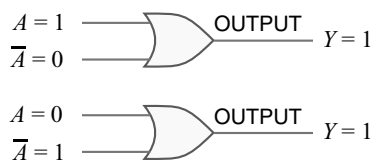

Fig. 24.39
**Theorem 3.** ( $A + \bar{A} = 1$ ). This theorem can be easily explained. If a variable  $A$  and its complement ( $\bar{A}$ ) are ORed, the result is always 1. If  $A$  is a 0, then  $0 + \bar{0} = 0 + 1 = 1$ . If  $A$  is a 1, then  $1 + \bar{1} = 1 + 0 = 1$ . Fig. 24.39 illustrates this theorem.